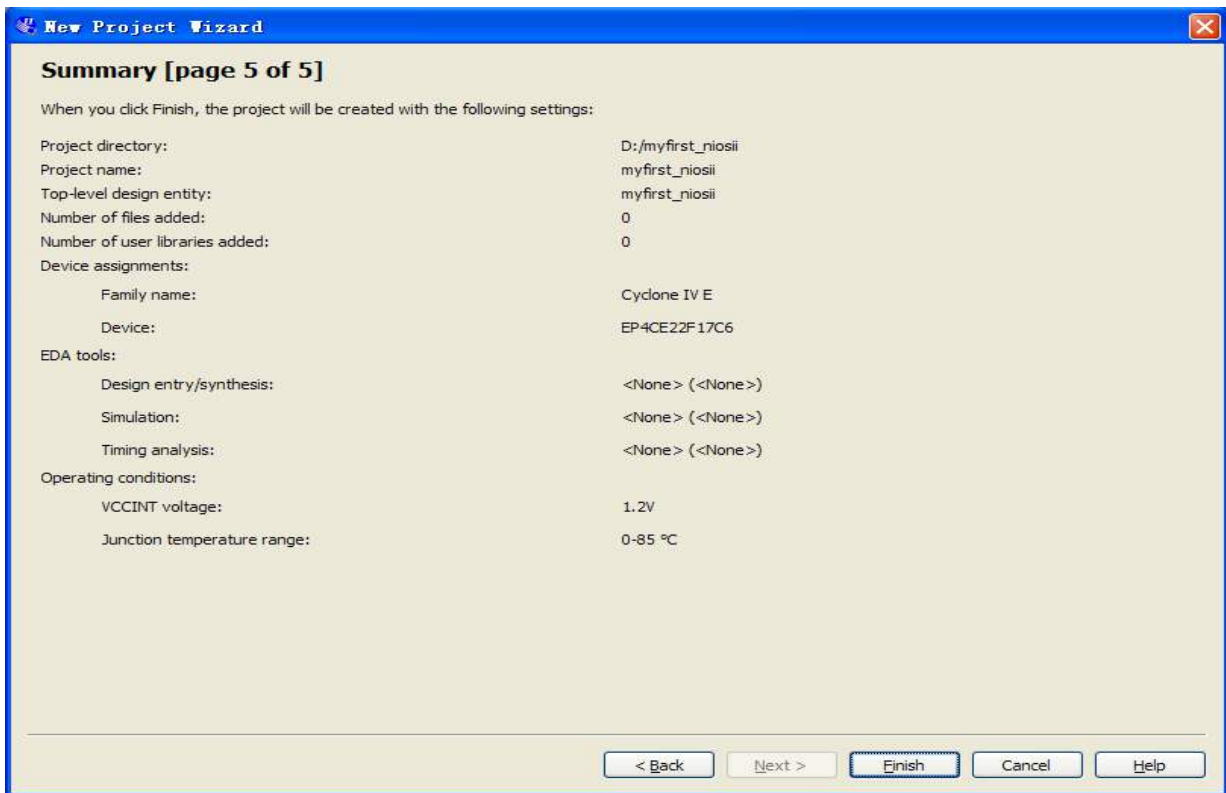
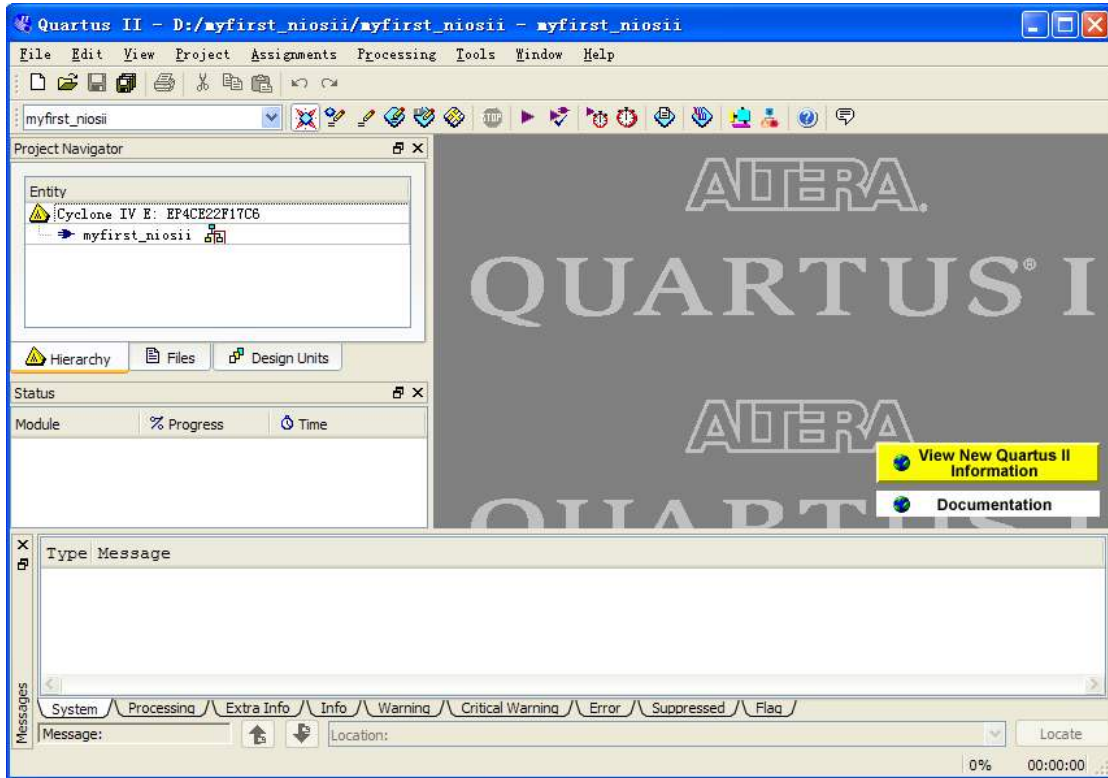

Figure 7-7 New Project Wizard: Summary [page 5 of 5]
Figure 7-8 A New Complete Project
4. Click **Next** and will see a window as shown in **Figure 7-7**. **Figure 7-7** is a summary about the new project. Click **Finish** to complete the New Project Wizard. **Figure 7-8** show the new project.